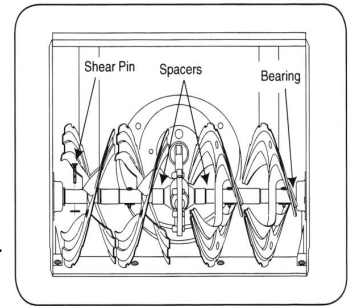

Figure 19
- The auger are secured to the spiral shaft with two shear pins and cotter pins. If the auger should strike a foreign object or ice jam, the snow thrower is designed so that the pins may shear. See Figure 19.